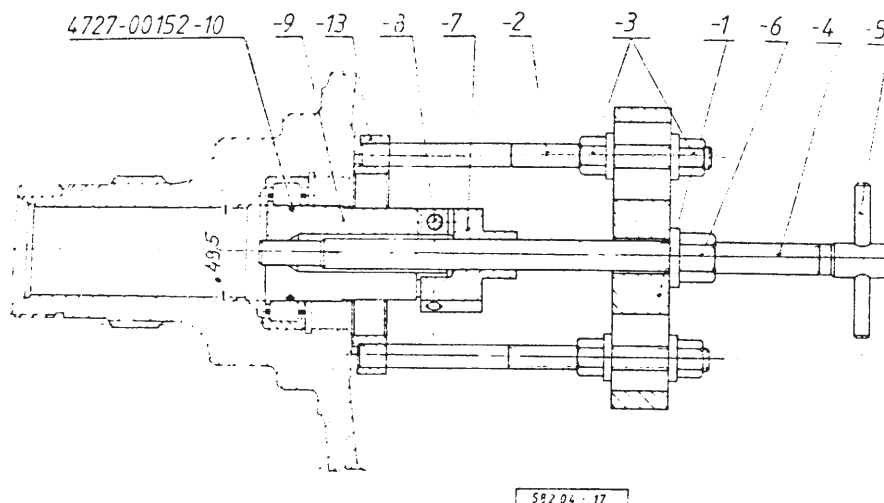

Fig. 1.: PULLING OUT THE CYLINDRIC ROLLER BEARING
Remove the snap ring (92) in front of the cylindric roller bearing (93), then using the puller pull out the bearing (Fig. 1.).
Drive out the cylindric roller bearing (74) and the seal retainer (75). See Fig. 1.